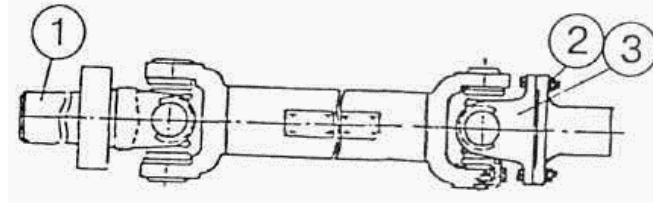

Figure 5.17
e) before mounting cardan shaft grease external surface of sliding yoke (1) (figure 5.17) with oil that is filled in transmission body;